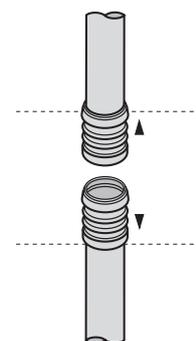

Fig.5b Sliding on the Slip Couplers
Step 4 – Slide Slip Couplers over spigot ends of the existing pipework (Fig.5b)